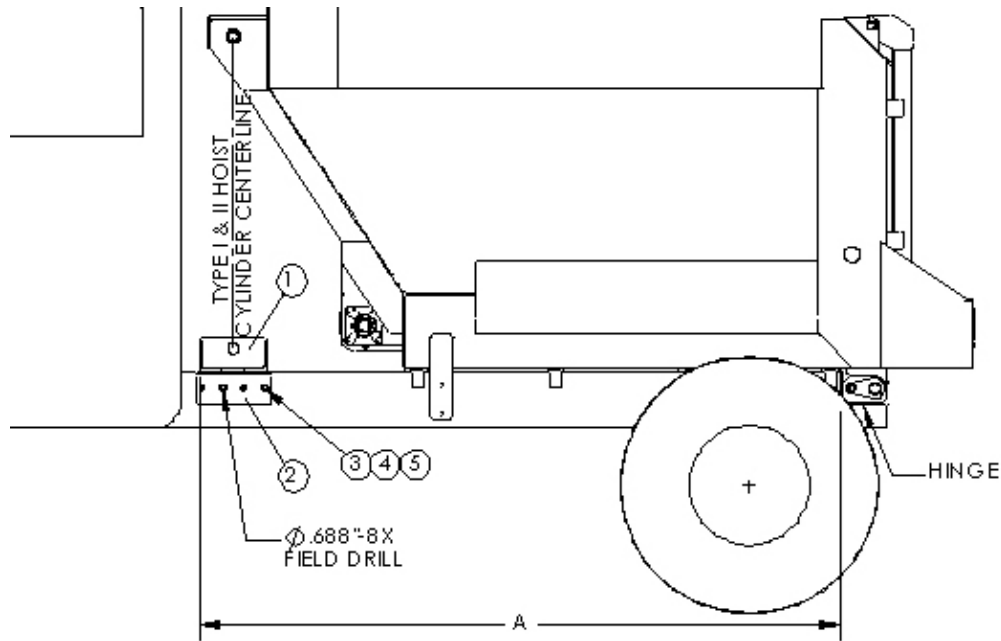

Figure 5 – Cradle Installation
1. Position Cradle (1) on truck frame rails as shown in Figure 5, and distance from Hinge according to chart above.